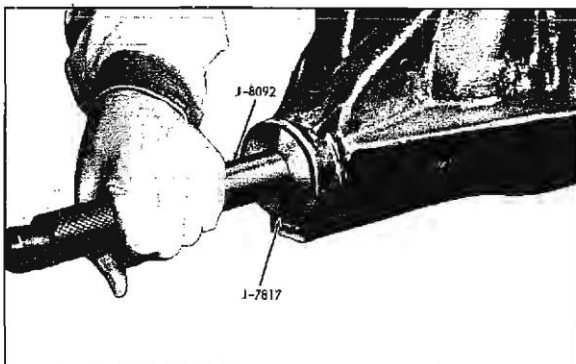

Fig. 4-34 Installing Front Pinion Bearing Outer Race
2. If replacing front pinion bearing, install new outer race using installer J-7817 with driver handle J-8092 (Fig. 4-34).